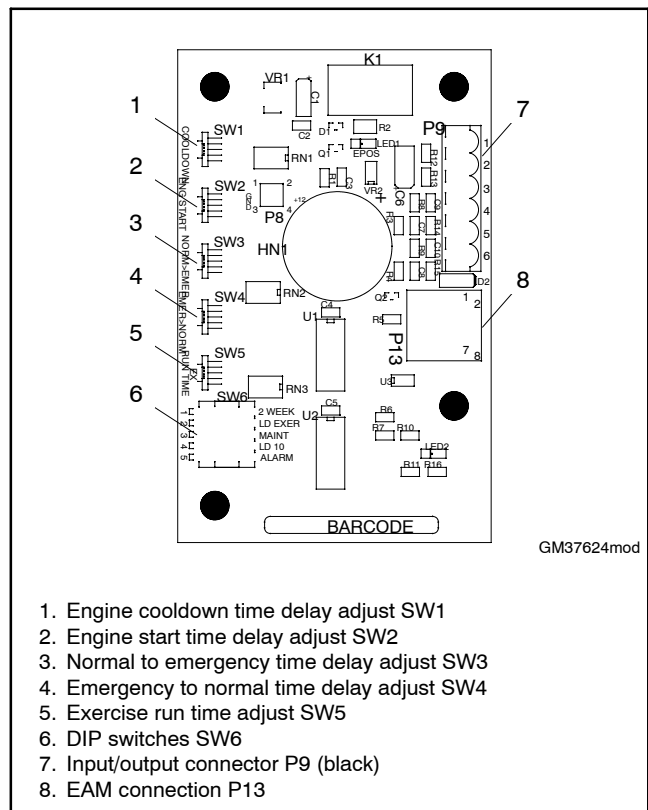

Figure 5-19 Accessory Board Component Locations
- Check the timer switch and DIP switch settings on the accessory board. See Figure 5-19 and refer to the Transfer Switch Operation/Installation Manual, TP-6345, for instructions.